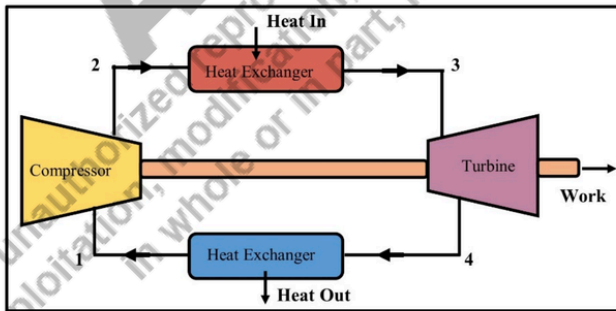

Fig. 1.1 Air-standard gas turbine
**Key Diagrams to Study:** Fig. 1.1 to Fig. 1.11 – Air-standard gas turbine, Brayton cycle diagrams, open/closed cycle layouts, turbojet, ramjet, and rocket schematics.
*Refer to **Fig. 1.1:** Air-standard gas turbine schematic and **Fig. 1.2:** p-V and T-s Diagrams for Brayton Cycle*